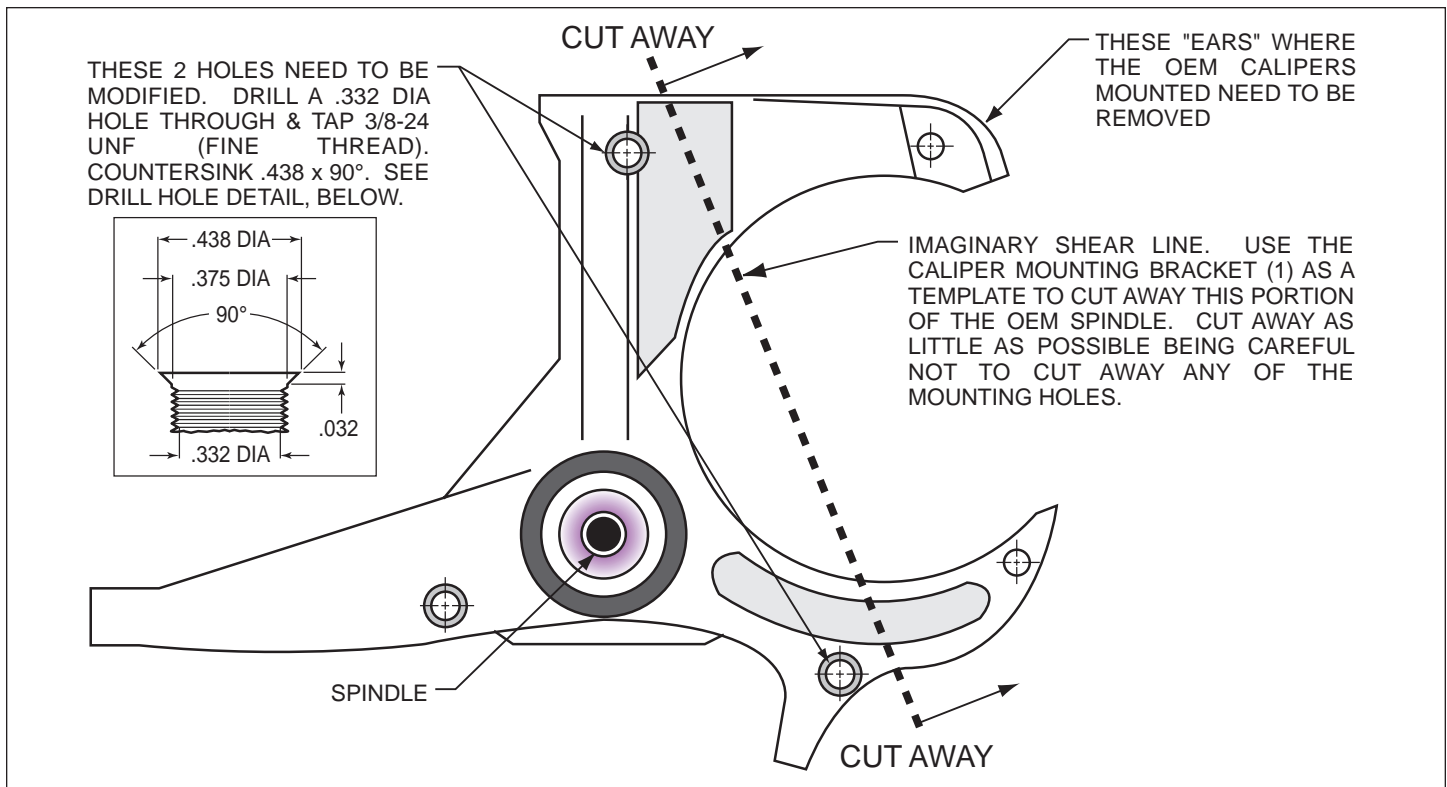
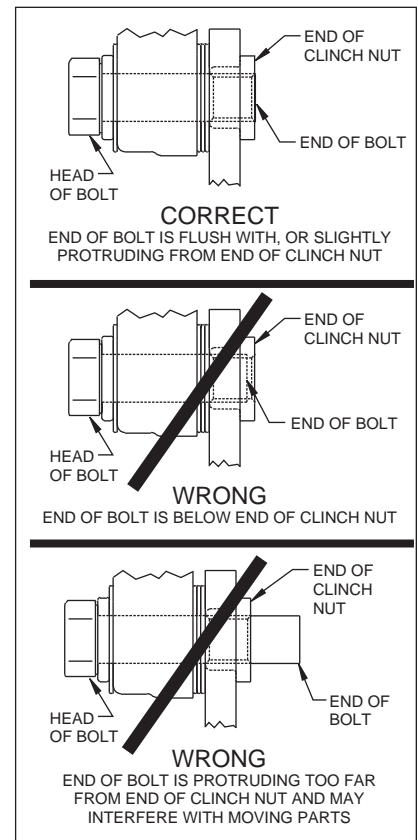

Figure 1. Steering Arm / Spindle Modifications
Figure 5.
These modifications should be performed by a qualified machinist. Refer to Figure 1 on the following page as necessary (numbers in parenthesis refer to the parts list on page three). Only one view of the steering arm/spindle is shown, but the modifications need to be performed on both steering arm/spindles.
- Mount the adapter/rotor assembly (8/9) to the hub (5) using bolts (11) (finger tight), as shown in Figure 1. Using an alternating sequence, remove bolts one at a time, apply red *Loctite*® 271 to the threads, and torque to 55 ft-lb.
- Pack the small outer bearing cone (12) with high temperature disc brake bearing grease and install into front of hub (5). Slide the hub/rotor assembly (5 and 9) with outer bearing cone (12) onto the spindle. Secure using stock washer, adjusting nut and nut locking device.
- Install the dust cap (15) onto the hub (5). Friction created by the o-ring (14) on the dust cap (15) keeps it from unscrewing. The O.D. of the existing spindle washer may be larger than the I.D. of the dust cap (15) not allowing it to seat against the hub face. Therefore, use the spindle washer (13) supplied with the kit instead of the stock washer.
•**NOTE:** Please reference the caution statement at the beginning of the assembly instructions. Mount the caliper (16) onto the caliper mounting bracket (1) using washers (17) and bolts (18). Finger tighten. View the rotor (9) through the top opening of the caliper (16). The rotor (9) should be aligned in the center of the caliper (16). If not, adjust the caliper (16) by using 0.032 inch thick shims (19) placed between the caliper mounting bracket (1) and the caliper (16). Add as many shim washers (19) as necessary to achieve the correct alignment. **NOTE:** The end of the bolt must be flush with or slightly protruding from the head of the clinch nut. See Figure 5. Place spare shims (19) between washer and caliper mounting ear to achieve the proper mounting fastener configuration. Always use the same amount of shims on both the top and bottom caliper mounting bolts (18). Finger tighten and recheck alignment, adjust as necessary. Apply red *Loctite*® 271 to bolt threads (18) and torque to 40 ft-lb. Caliper mount bolts may be safety wired for additional security.
- Install the disc brake pads (20) into the caliper (16). Secure the disc brake pads to the caliper utilizing cotter pin (21).